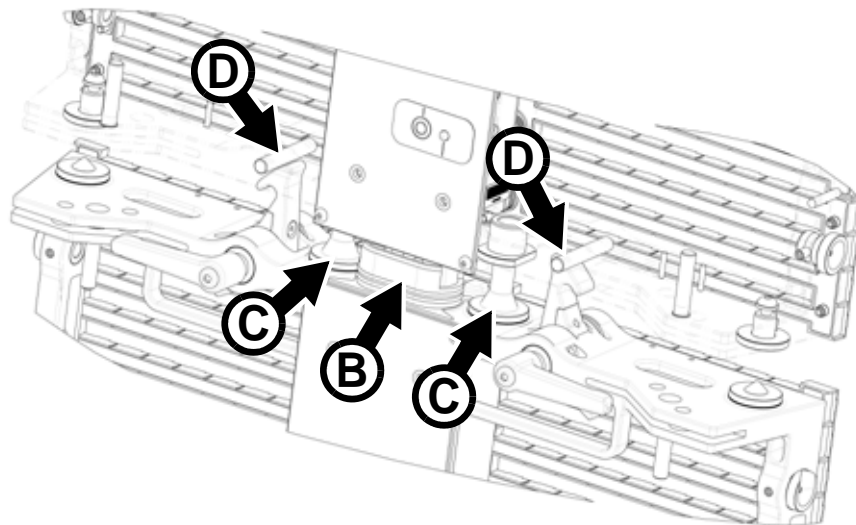

Figure 9: Hooks contact locking posts (cutaway view)
3. See Figure 9. Lift the panel you are installing up to the Header or panel above so that the power and data connector **B** and guide posts **C** engage and the locking hooks in the panel touch the locking posts **D** in the Header or panel above.
Power input and throughput connectors on EC-20 panels are integral and engage automatically when panels are installed in columns (see Figure 9 on page 12).